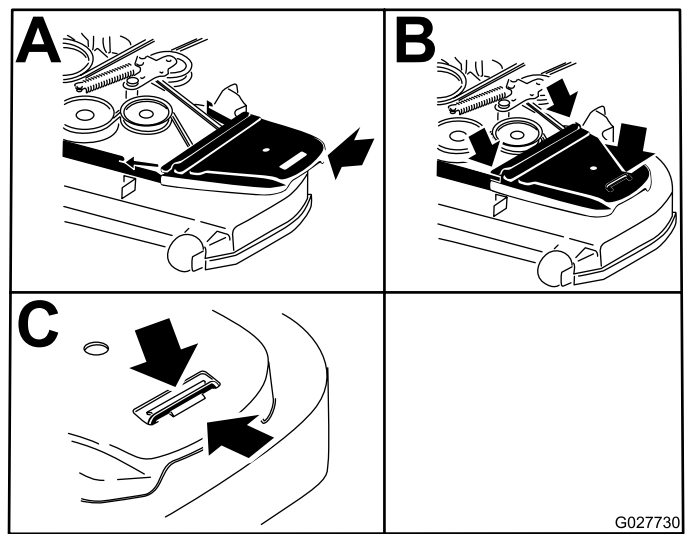

Figure 81
12. Install the belt covers (Figure 81).